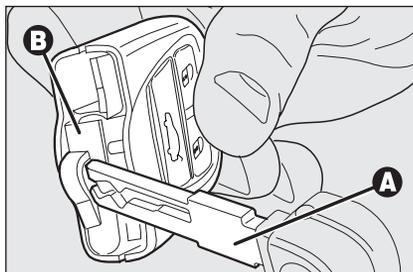

fig. 11
- remove the snap-fitted case **B-fig. 11** (red) by levering with the metal insert **A** of the electronic key in the point shown in the figure;